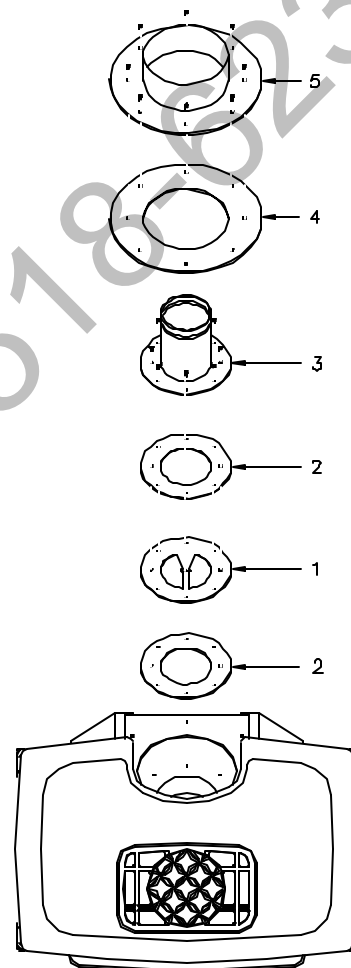

FIGURE 1. GASKET & STOVE ADAPTER INSTALLATION
**NOTE:** If required to use the restriction plate, please refer to Figure 1 for correct locations of the additional gasket, restriction plate, and inner adapter configuration.